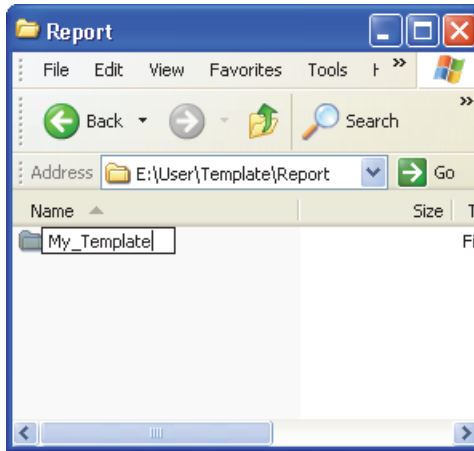

Figure 11-11 The path for the custom report files
4. Rename the \User\Template\Report\Complete\ folder that you have just copied using a name of your choice (renamed to My_Template in the example shown in Figure 11-11 on page 210).